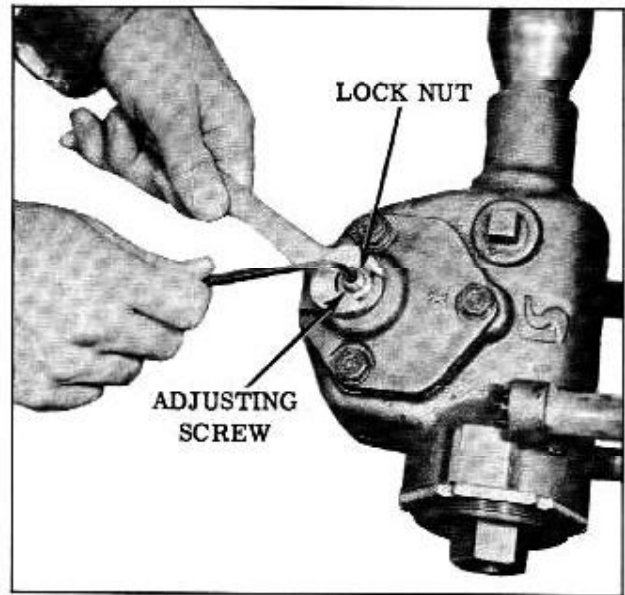

Fig. 4-7 Over-Center Adjustment
2. Loosen pitman shaft adjusting screw lock nut and loosen adjusting screw a few turns (Fig. 4-7).
- After making the worm bearing adjustment, the pitman shaft adjusting screw should be tightened until a pull of 1-1/2 to 2 pounds at the steering wheel rim is required to turn the wheel through the center range. (Approximately 2-7/8 turns from either end of travel on car or 3-1/8 turns for bench adjustment.) (Fig. 4-7) Tighten the lock nut and recheck the over-center adjustment.